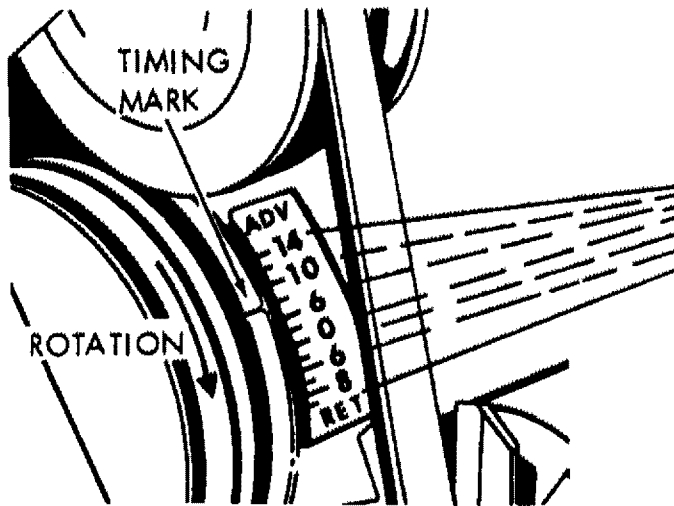

FIGURE 35
3. Locate the timing mark on the fly wheel and degree indicator plate. Clean both surfaces and apply a white chalkmark on the fly wheel mark for good visibility. (Figure 35)